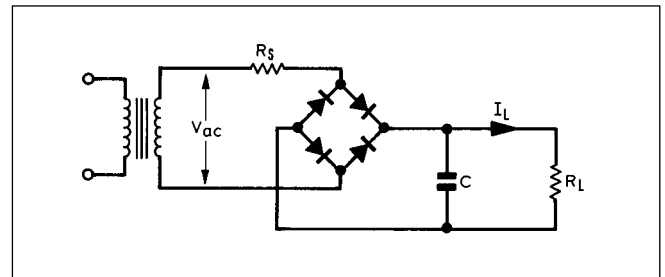
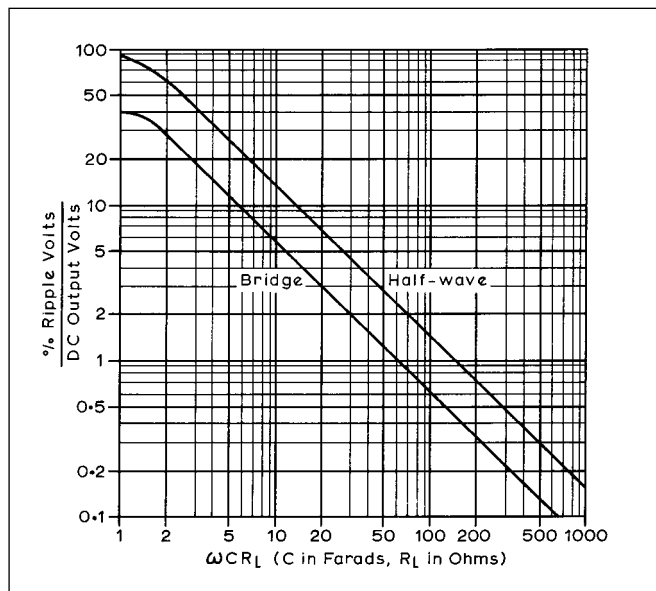

Fig 23.4: Bridge rectifier with capacitor input filter
Fig 23.9: Percentage ripple voltage (RMS) against values of ωCR_L ($\omega = 2\pi f$ where f is the mains supply frequency)
An example is the bridge rectifier of Fig 23.4 in which R_s is the effective resistance of the transformer (resistance of the secondary, plus the square of the turns ratio times the primary resistance).
As the effective resistance of the transformer becomes a smaller and smaller fraction of the load resistance, R_L , the peak rectifier current increases (see Figs 23.7 and 23.8). With increasing C (Fig 23.4) the peak rectifier current increases and the capacitor ripple current increases, although the capacitor (output) ripple voltage decreases (Fig 23.9). The efficiency also decreases, meaning more transformer and diode heating. A
simple idea to avoid destroying the diodes by excessive current, is to limit the maximum peak current by adding a series resistor to augment the R_s of Fig 23.4. The minimum value of R_s is given by
- 7 Fig 23.9 gives the ripple as about 0.6% .